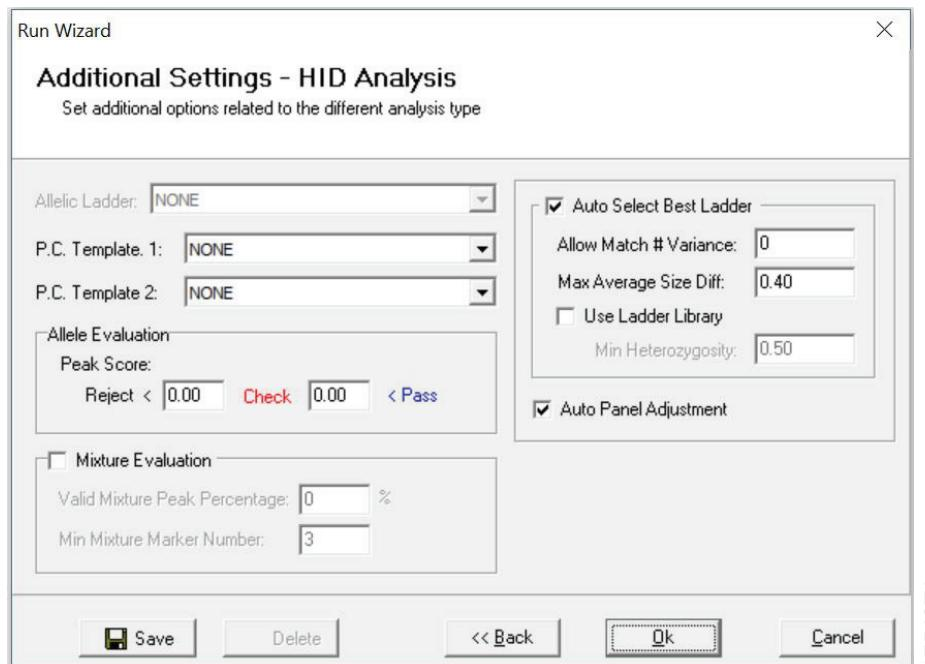

Figure 31. The 'Additional Settings' window.
10. The ‘Additional Settings’ window will appear (Figure 31). Verify that the boxes are checked for “Auto Select Best Ladder” and “Auto Panel Adjust”. The values displayed in the ‘Allele Evaluation’ dialogue box are defaults and will affect the quality values displayed in the plot settings. For more information on quality values, use of positive controls and mixture evaluation, refer to the *GeneMarker®HID Software for Spectrum CE Systems User Manual #TM555*. Select **OK** to analyze the raw data.